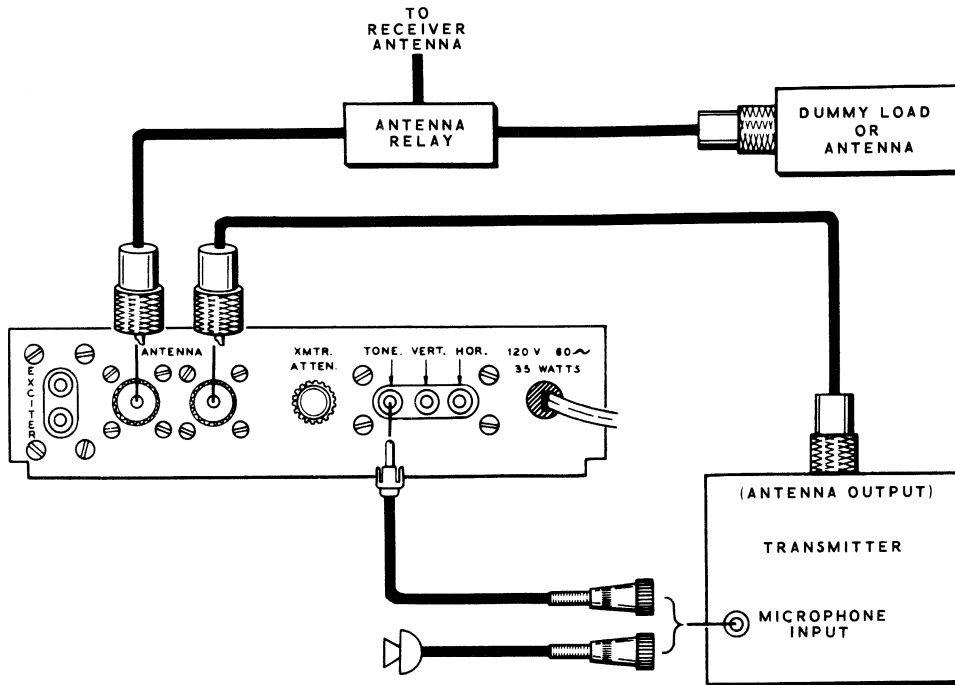

Figure 7
- ( ) Connect the Scope as shown in Figure 7